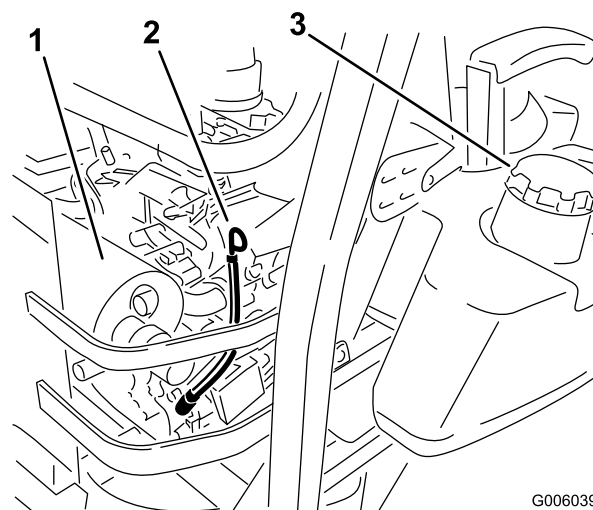

Figure 38
5. Clean around the oil dipstick (Figure 38) so dirt cannot fall into engine.
6. Pull the oil dipstick and wipe the metal end clean (Figure 38).
7. Slide the oil dipstick fully into the engine. Pull the dipstick out and look at the metal end (Figure 38). If oil level is low, slowly pour only enough oil into the filler tube to raise the level to the full mark.